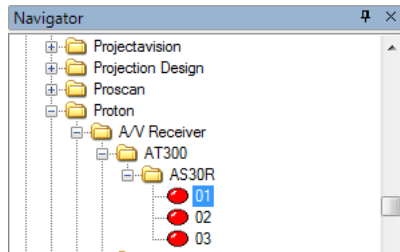

FIG. 50 IR File selected in the Navigator window
1. Select an IR File in the Navigator window (FIG. 50):